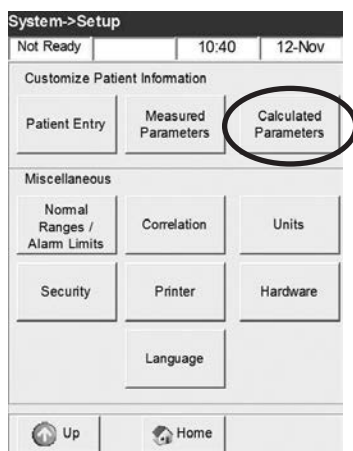

Fig. 3-12 Select Calculated Parameters
2. In the **<System Setup>** menu, press **<Calculated Parameters>** (Fig. 3-12).